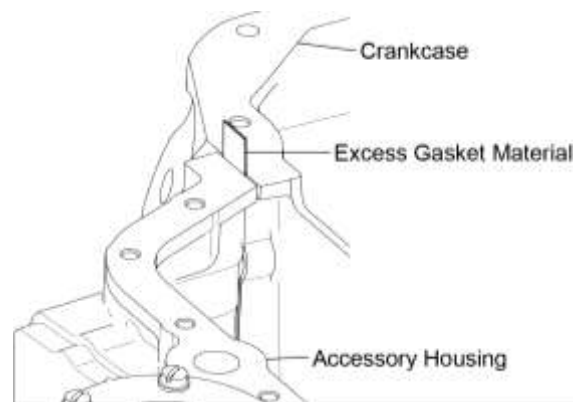

Figure 9
- C. Remove (cut away) any excess accessory housing gasket material that extends to the oil sump mounting surface. Excess gasket material must not extend between the accessory housing and crankcase. The gasket must be flush with the oil sump flange (Figure 9).